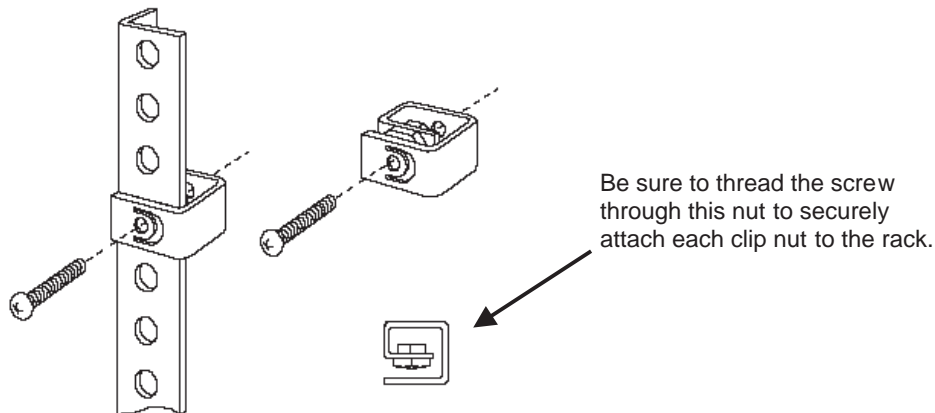

Figure 3. Installing a Clip Nut in the Rack
2. Install the clip nuts provided (four) onto the front of the rack at the position where the Cable Management Tray will be attached. Figure 3 shows the clip nut installation.